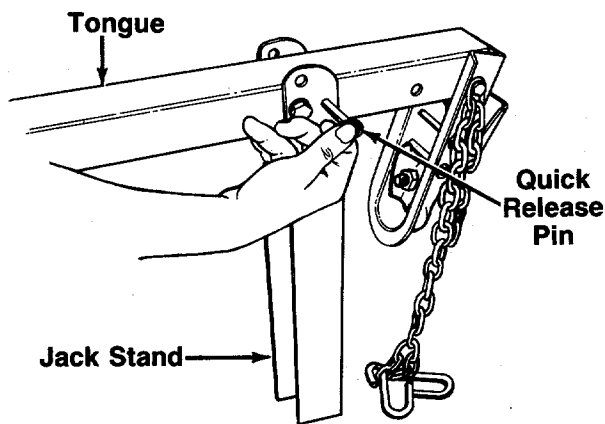

FIGURE 3.
- The tongue is shipped with the jack stand already attached to the tongue. The jack stand is in the transport position. Remove the quick release pin. Pivot the jack stand to the operating position (90°), and secure with the quick release pin. See figure 3.